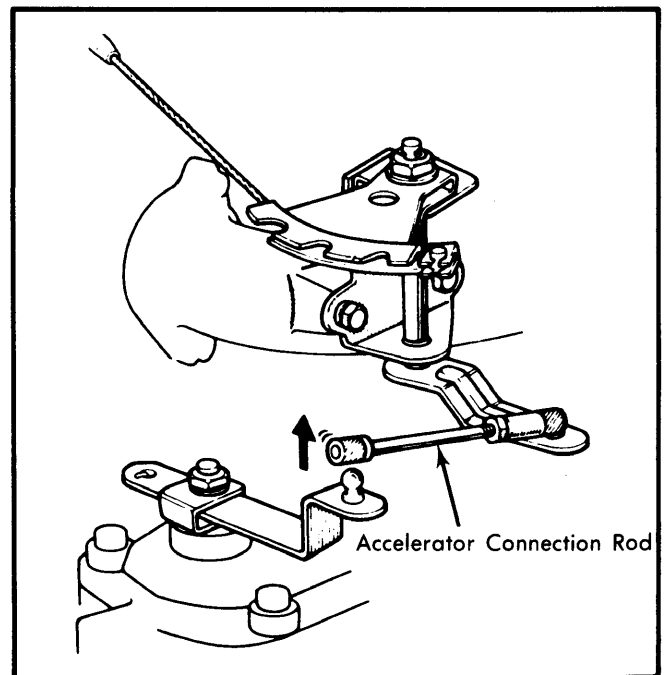
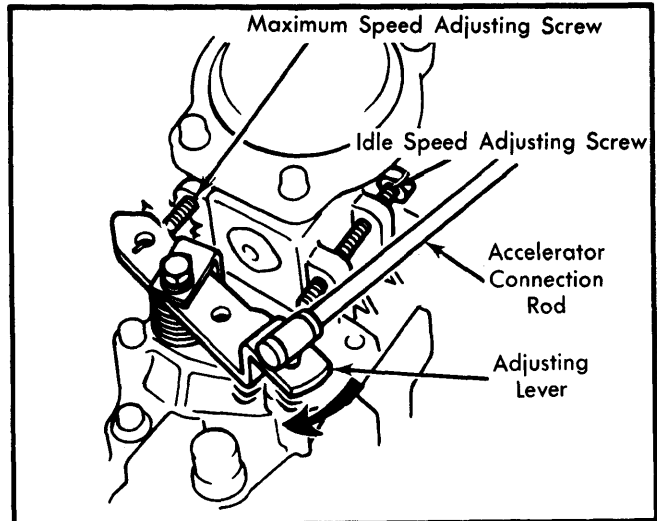

Fig. 2 Accelerator Connection Rod Removal
Fig. 3 Idle Speed and Maximum Speed Adjusting Screws
2) Remove the accelerator connection rod. See Fig. 2. Connect a tachometer to engine. Start engine and check idle speed. If necessary, adjust by turning idle speed adjusting screw on injection pump. See Fig. 3. Then check maximum speed adjustment.
1) Install tachometer and run engine until normal operating temperature is obtained. Remove accelerator connection rod, if not previously removed. Move adjusting lever fully clockwise. See Fig. 3.
2) Remove wire seal on maximum speed adjusting screw, if seal is present. Using appropriate tool (09275-54020), loosen lock nut on adjusting screw and adjust maximum speed by turning adjusting screw. See Fig. 3.